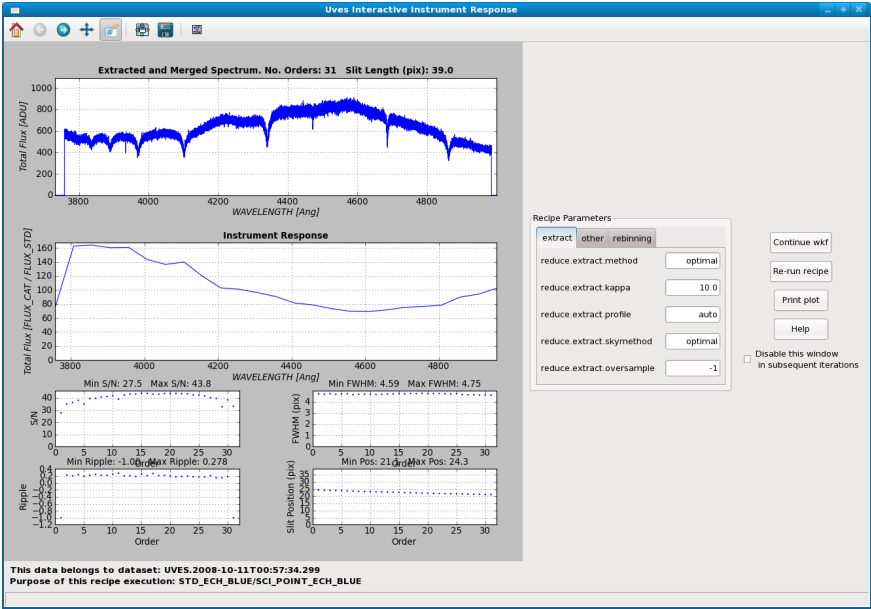

Figure 7.3: The interactive window for the Instrument Response actor.
14. **Instrument Response:** The standard DataSets supplied with Reflex 2.5 do not include standard star observations. Hence the `Instrument Response` actor will not be executed, and the corresponding interactive window will not appear. In Figure 7.3 we show what this interactive window looks like. The usage and purpose of the `Instrument Response` interactive window are the same as for the `Spectrum Extraction` interactive window which we describe in detail in the next few steps, and so no more information on this window is given here in the tutorial.